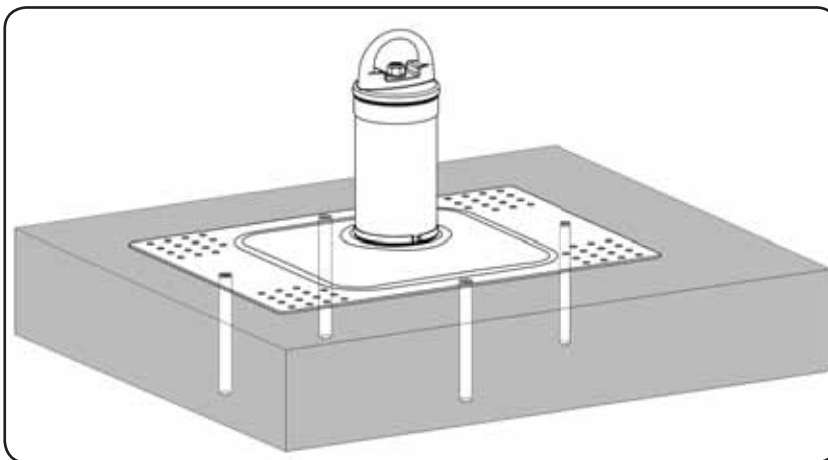

Fig. 11b
6. Then drive an expansion bolt through the base mounting hole and into the corresponding drilled hole at each of the four mounting locations (see Fig. 11b).
**WARNING:** All four (4) expansion bolt anchors must be used to secure the base properly.